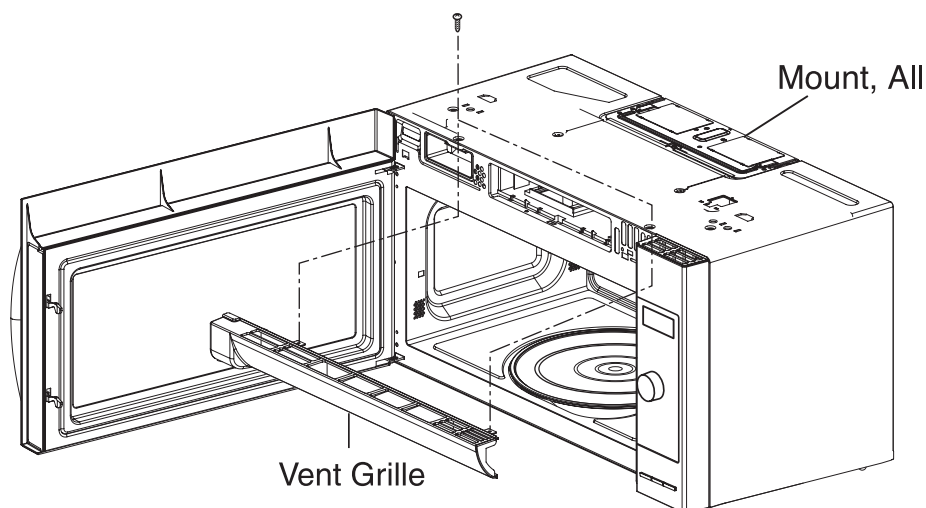

Figure 11
(Figures 11 Through 12)
- (1) Remove the vent grille by loosening two screws. (Figure 11)
- (2) Remove the outcase. See page 7-6.
- (3) Remove four tap tite screws securing the magnetron to the wave guide.
- (4) Remove the magnetron VERY CAREFULLY.